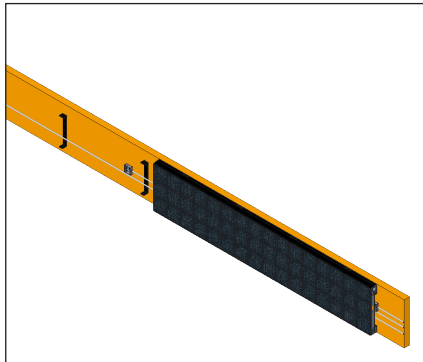

Figure 5: Slide Display Section onto C-Clips
- 2. Once the clips are level and secure, slide the display onto the clips through the gap in the chassis. Refer to **Figure 5**.